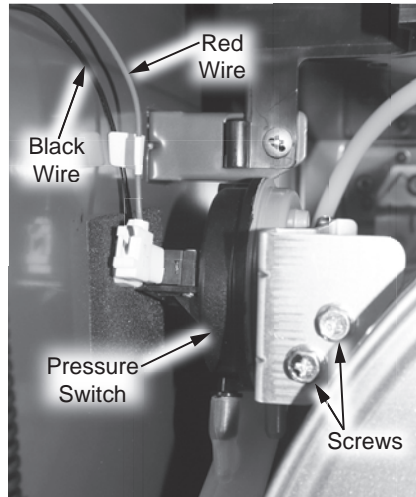

Figure 66 - Pressure switch location
4 Locate the pressure switch on upper left side of the water heater. See Figure 66.
5 Disconnect the black wire harness from the common (C) connector and the red wire harness from the normally closed (NC) connector. See Figure 66.
6 Remove and keep the two screws securing the pressure switch to the water heater. See Figure 66.
- 14 Reconnect the black wire harness to the common (C) connector. Reconnect red wire harness to the normally closed (NC) connector. See Figure 66.